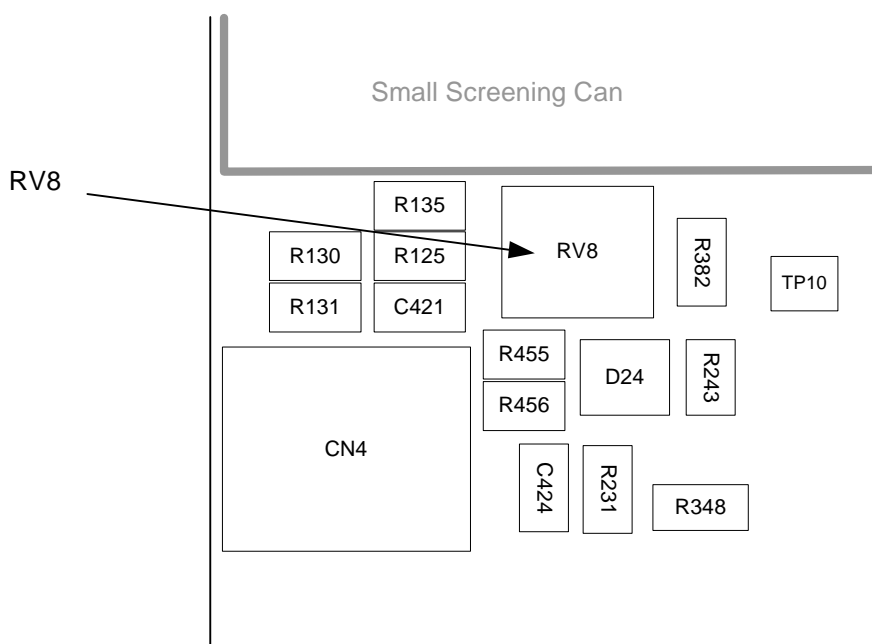

Fig 4 Location of PA Control Module RV8
- (1) Connect a dummy load via a power meter to the transmitter Antenna connector.
- (2) Remove the transmitter's bottom cover.
- (3) Using a radio to PC Serial Interconnection Lead, Park Air part number 17E12600001, connect the radio's front panel Microphone/Diagnostics connector to the PC's Com Port 1 or Com Port 2 (note which Com Port is used).
- (4) Run up the VFP software and check that a blank VFP screen is displayed.
- (5) At the Menu Bar, click on *Serial Port* and select either *Com 1* or *Com 2*. The selection must correspond to the port used to connect to the radio.
- (6) At the Menu Bar select *Radio > Retrieve > All*.
- (7) At the Menu Bar select *Radio > Calibrate*. The Confirm screen will then be displayed to remind you that a dummy load must be connected before proceeding.
- (8) With the Confirm screen displayed and dummy load connected, select Yes to continue with the calibrate routine. The Progress screen will then be displayed.
- (9) When the PA Control/PA loop has been calibrated the Progress screen disappears and the VFP screen reappears showing a calibration complete message in the Status Information window.
- (10) Gain access to the PA Control module and identify RV8 (see Fig 4). From the transmitter front panel AM-Voice or AM-MSK Settings screen, select PTT On.
- (11) From the Settings window of the VFP screen, note the RF power setting. Adjust RV8 until the power meter reads this value.
- (12) From the transmitter front panel AM-Voice or AM-MSK Settings screen select PTT Off, then remove the power meter and dummy load. This completes the calibration routine.
- (13) When there is no further requirement for using the VFP, exit the VFP software and disconnect the radio from the PC.